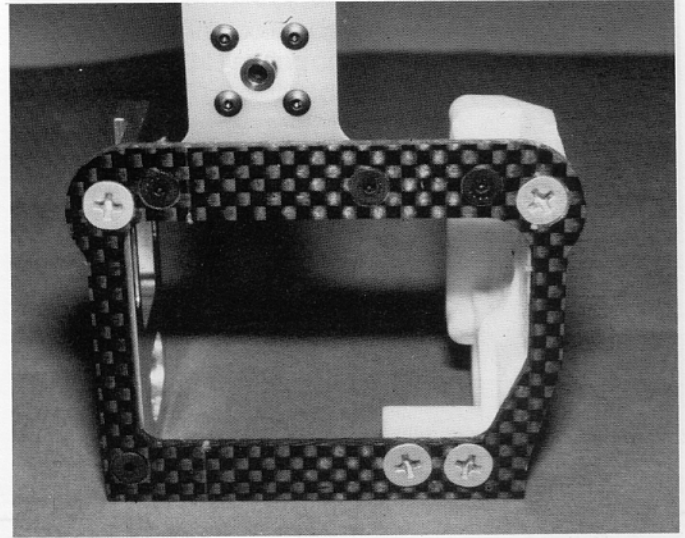

Fig. 23
□ **Fig. 23**—The bottom of the rear end assembly should look like this now.